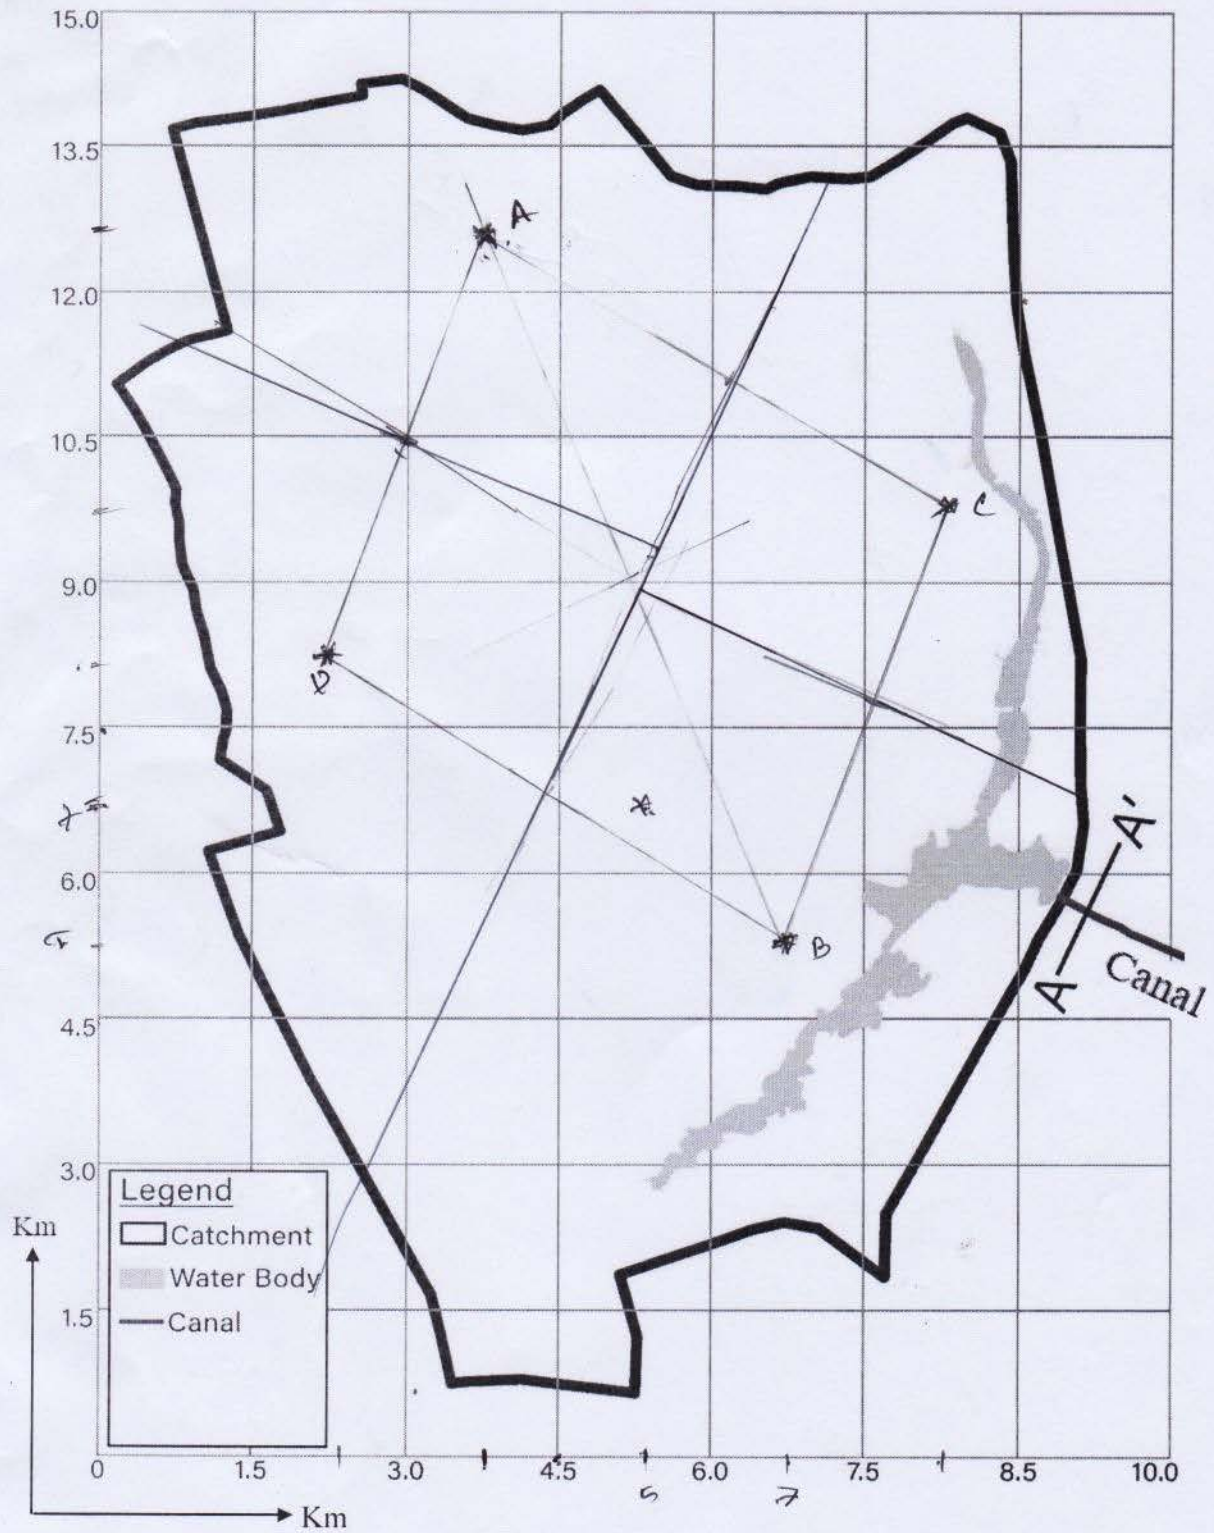

Figure-1
1(b). The ordinates of a storm hydrograph of the canal draining the catchment area shown in Figure-1 due to an 8-hour isolated storm are given bellow. Find the ordinates of the 8-hour unit hydrograph for the catchment. (15)
1(c). Water body shown in Figure-1 has the following elevation, storage and discharge relationship.
2(b). Calculate the potential evapotranspiration from the catchment shown in Figure-1 in the month of February by penman's formula. (17)
4(b). Following inflow and outflow hydrographs were observed in the canal shown in Figure-1. Find the values of K and x applicable to this reach for use in the Muskingum equation. (18)
6(a). Flood frequency computations by using Gumbel's method for the canal shown in Figure-1 had the following results.
6(b). The data concerning to a stream-gauging operation at section AA' of the canal shown in Figure-1. Determine the discharge in the stream with the following data. (12)